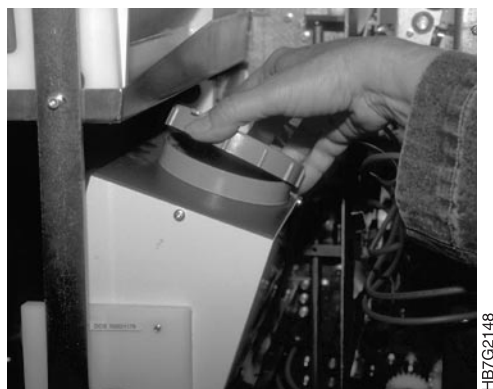

Figure 280. Removing a Toner Container Lid
2. Remove the lid of each toner container, as shown in Figure 280, and check whether you can see the second spindle (or auger) at the bottom of the container. The **Refill Toner Containers** window opens. Click the **Done** pushbutton.